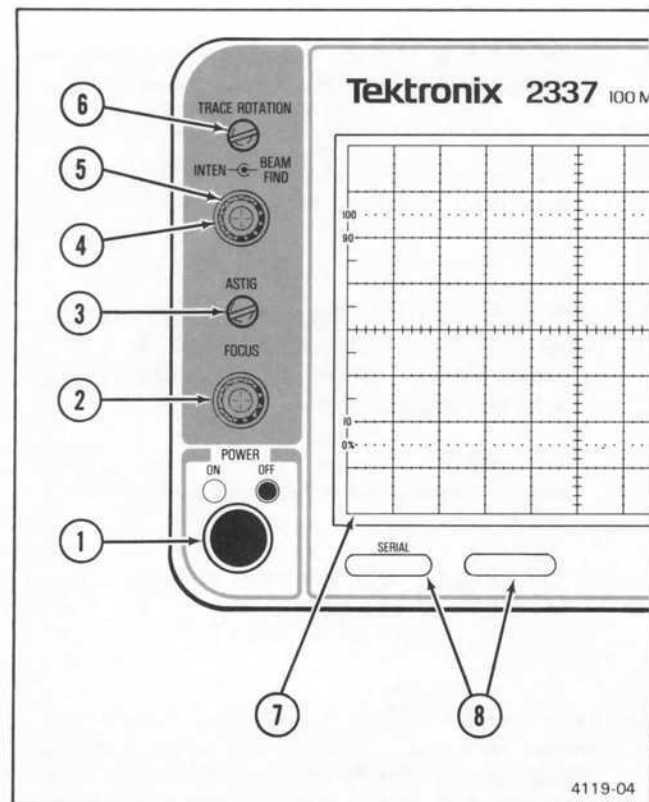

Figure 3. Power and display controls and indicators.
Refer to Figure 3 for location of items 1 through 8.
- ① **POWER Switch**—Turns instrument power on and off. Press in for ON; press again for OFF.
- ② **FOCUS Control**—Adjusts for optimum display definition.
- ③ **ASTIG Control**—Screwdriver control used in conjunction with the FOCUS control to obtain a well-defined display over the entire graticule area. It does not require readjustment during normal operation of the instrument.
- ④ **INTEN Control**—Determines the brightness of the crt display (has no effect when BEAM FIND switch is pressed in).
- ⑤ **BEAM FIND Switch**—When held in, compresses the display to within the graticule area and provides a visible viewing intensity to aid in locating off-screen displays.
- ⑥ **TRACE ROTATION Control**—Screwdriver control used to align the crt trace with the horizontal graticule lines.
- ⑦ **Internal Graticule**—Eliminates parallax viewing error between the trace and graticule lines. Rise-time amplitude measurement points are indicated at the left edge of the graticule.
- ⑧ **SERIAL and Mod Slots**—The SERIAL slot is imprinted with the instrument's serial number. The Mod slot contains the option number that has been installed in the instrument.